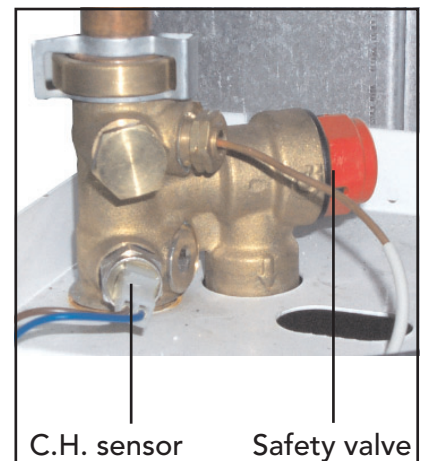

Fig. 25
## **Central Heating Temperature Sensor** (fig. 25).
## **Safety Valve** (fig. 25).
- Identify valve from fig. 25